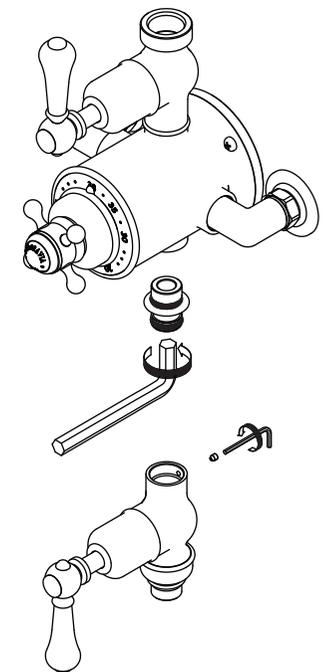

Fig. 3
- Insert outlet connector in the mixer and join the stop cock to the outlet connector using the grub screw (Fig. 3);